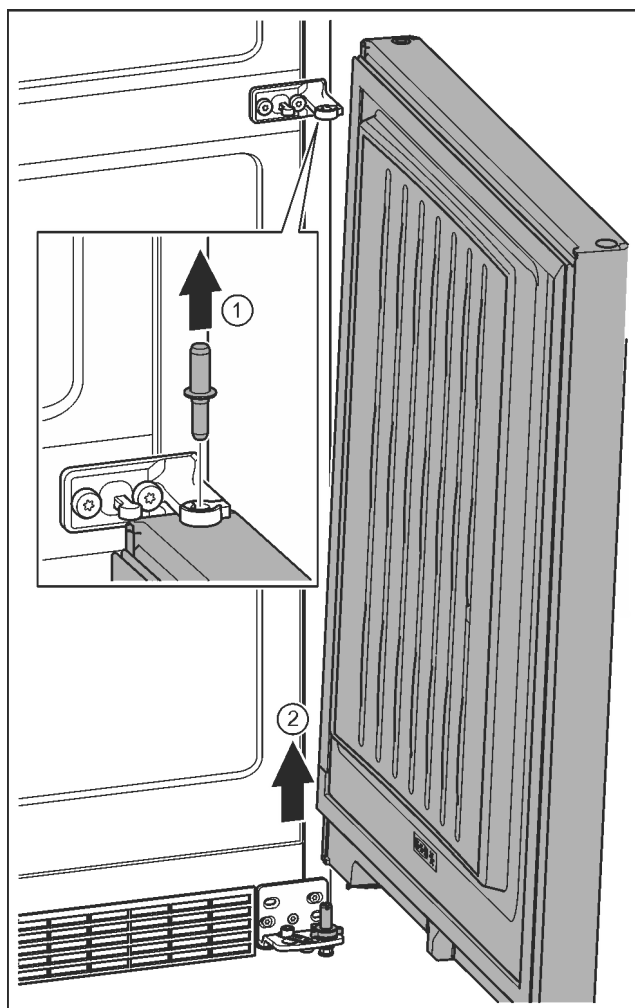

Fig. 11
- ▶ Pull out the bolts towards the top. *Fig. 11 (1)*
- ▶ Swing the door out, pull it upwards and set it aside. *Fig. 11 (2)*